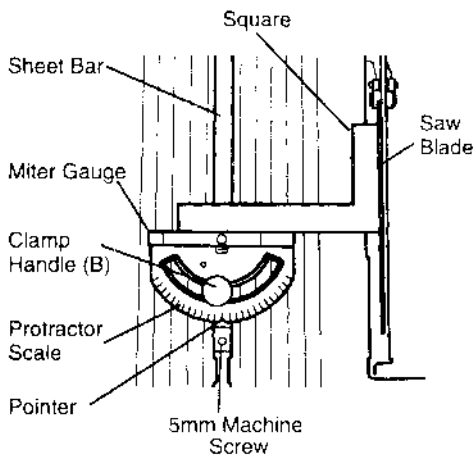

Fig.19
- (1) Loosen the clamp handle (B) and place a square against both the saw blade and miter gauge. The pointer should indicate 90° on the protractor scale on the miter gauge.
- (2) If the pointer does not point to 0 on the miter gauge,
- ① Tighten clamp handle (B).
- ② Loosen the 5mm machine screw on the sheet bar.
- ③ Adjust the pointer to the 90° position and tighten the 5mm machine screw on the sheet bar (see Fig.19).
- ④ After adjustment, recheck to see that the pointer now points to 0.